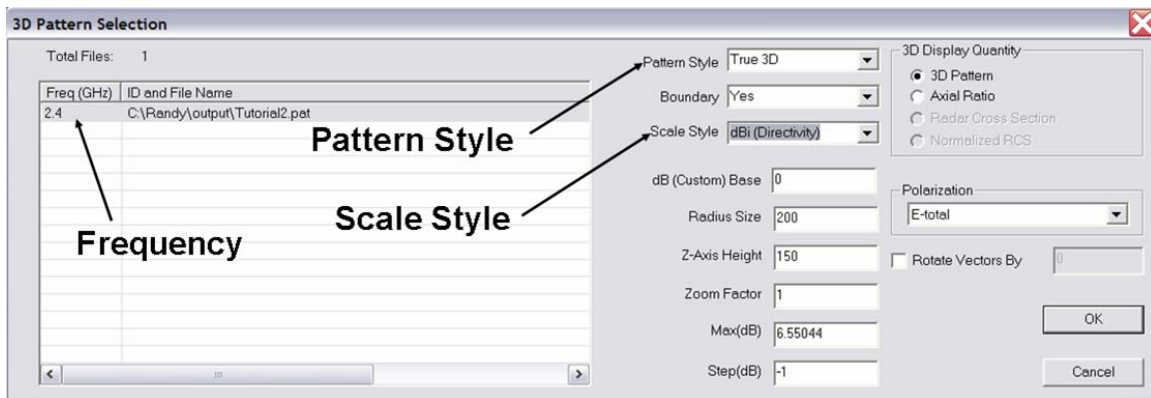
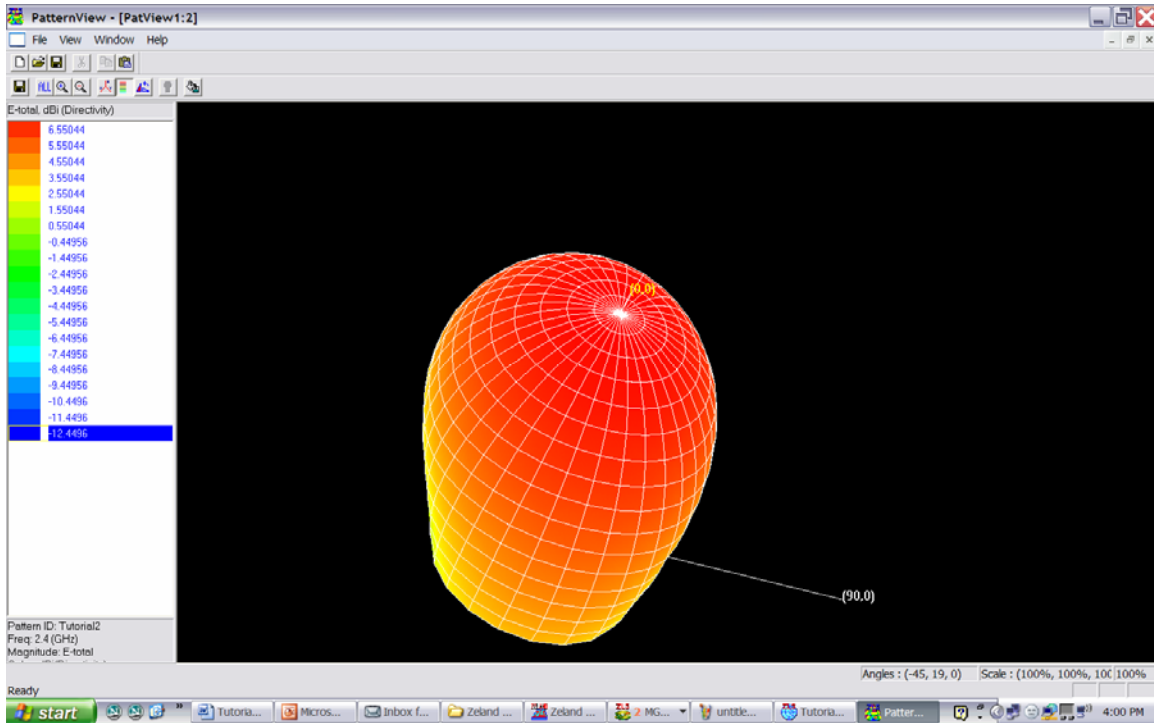

Figure 29.
Figure 30.
35) Select the “Display → 3D Pattern...” item. The “3D Pattern Selection” window pops up. Select True 3D as the “Pattern Style” and dBi (Directivity) as the Scale Style as shown in Figure 29. Press OK and the 3D pattern will appear as shown in Figure 30; the 3D pattern shows the general shape of the pattern but you cannot easily see the co-pol and cross-pol components. That is why we will also plot the 2D patterns in the E- and H-planes. Also note that the antenna is radiating only in the upper hemisphere as seen from its 3D radiation pattern. This is caused as a result of the presence of the infinite ground plane underneath the patch that isolates the lower half space.